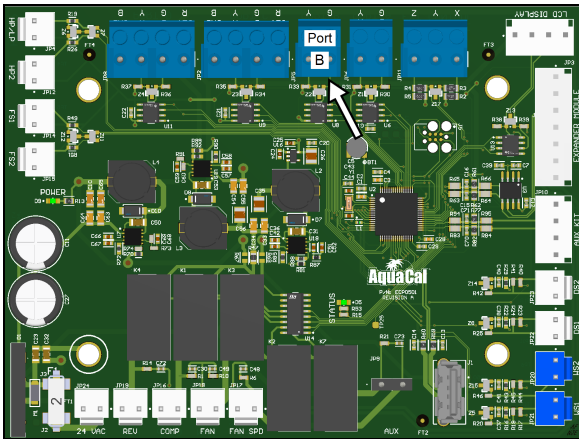

Figure 3
4. Connect control wires to the heat pump's "Port B" of the control board as indicated. See Figure 3.